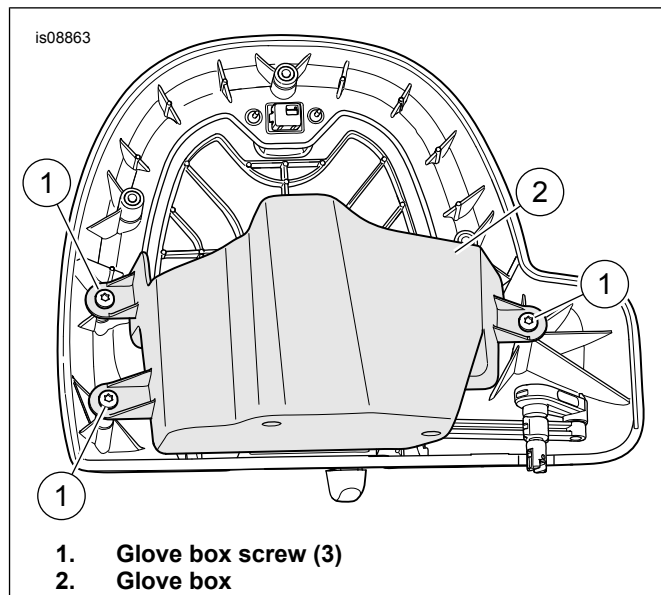

Figure 3. Glove Box Screws
4. See Figure 3. Remove glove box screws (1) and glove box (2).